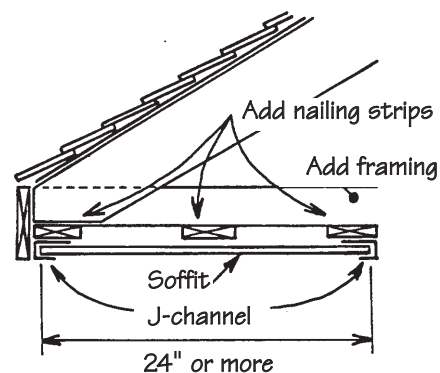

Figure 64.
**NOTE:** If the eave span is 24" or more, nailing strips must be installed as shown (Fig. 64). In areas with high wind restrictions, nailing should not exceed 12" on center.